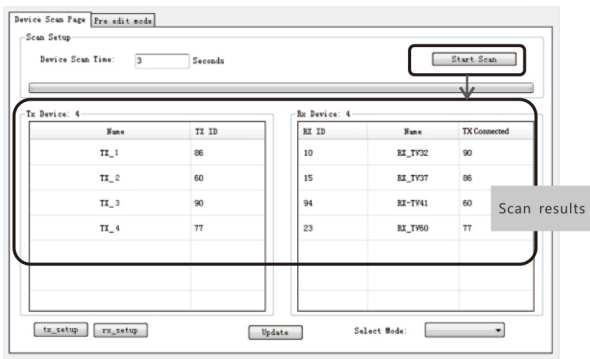

Figure 3
* Click button "Start Scan" , the scanned result shows as Figure 3